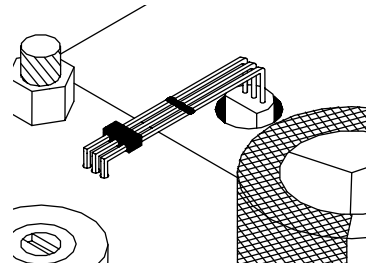

Fig. 7.0
- Carefully bend the leads and solder them to the connector T6, see figure 7.0.